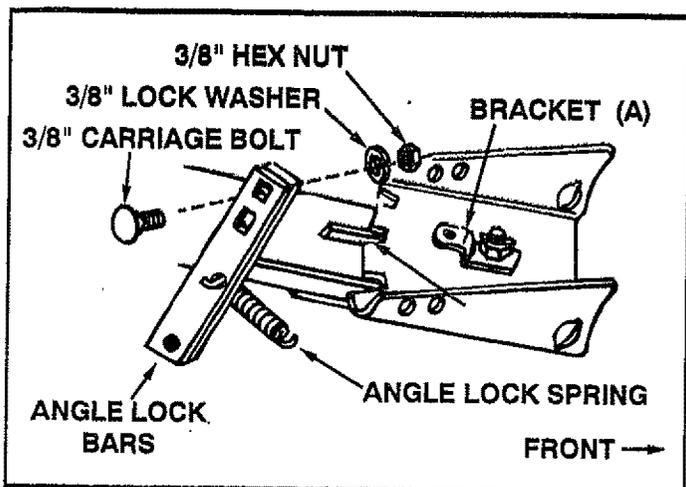

FIGURE 18 (Right Hand Side View)
- Assemble the two angle lock bars together as shown in figure 18, so that all holes are aligned. Use one 3/8" x 1-1/4" carriage bolt, one 3/8" lock washer and one 3/8" hex lock nut. Be sure to insert bolt from side indicated. Do not tighten at this time. See figure 18.
- Hold the angle lock bars so that the square holes are at the top. Hold the angle lock spring so that the opening of the round hook is facing up. Insert the straight hook end of the spring through the middle hole in both angle lock bars as shown in figure 18.
- Assemble round hook end of angle lock spring up through the hole in bracket (A), which is mounted on the pivot bracket. See figures 18 and 19.